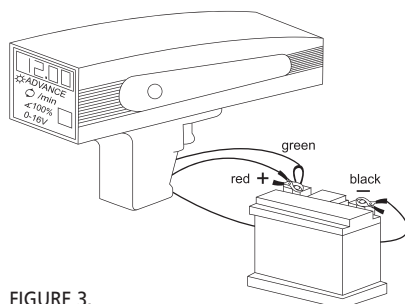

FIGURE 3.
- c. Connect the black clip to the negative battery terminal (-) and the red, green clip to the positive battery terminal (+). (See figure 3)